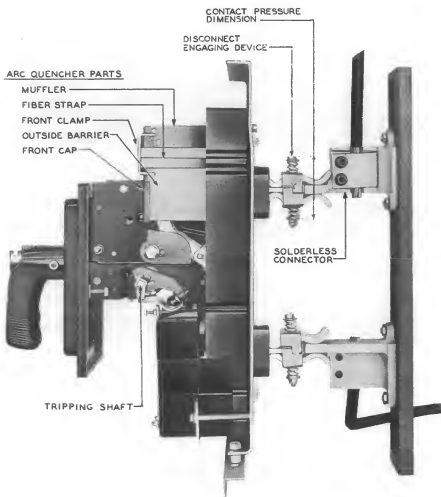

Fig. 2 - Side View of Breaker Showing Disconnect-devices Engaged
***#2.03 Disconnect Engaging Device:** See Fig. 2—
2.09 Solderless Connectors: See Fig. 2 — The solderless connectors should be retightened periodically until no further take-up can be obtained.
(1) These devices are located on the rear of the breaker. It will be necessary to remove the breaker from its case to obtain access to them. See 3.02 and Fig. 2.
(2) The contact pressure of these devices is adjusted at the factory, but if changed, readjust by holding the top bolt with an adjustable wrench and adjusting the nuts at the bottom of the bolt with a 7/16-inch open-end wrench to bring the dimension between washers within the requirement. Tighten the lock-nut when adjusted.